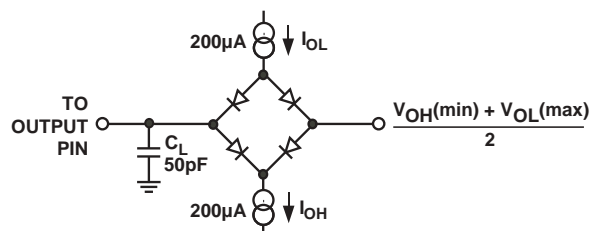

Figure 1b Load Circuit for SDO Timing Diagram
- ⁶This is measured with the load circuit of Figure 1b.